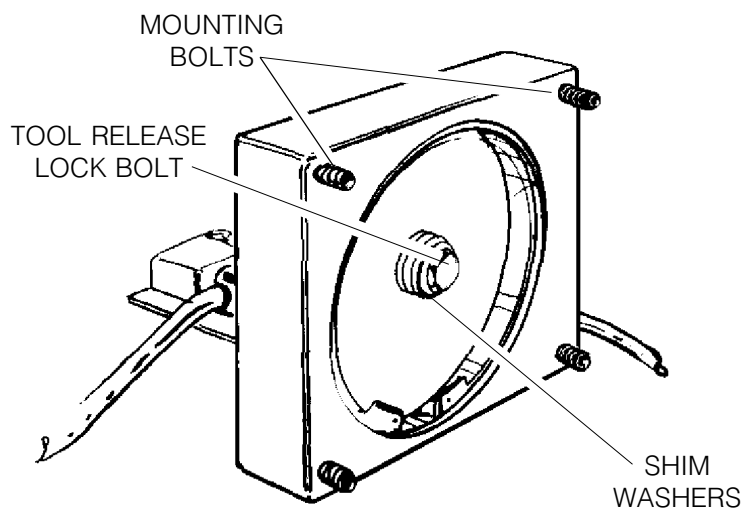

Fig. 6-6 Tool release piston assembly (bottom view).
2. Remove tool release **bolt** (See Fig. 6-6).